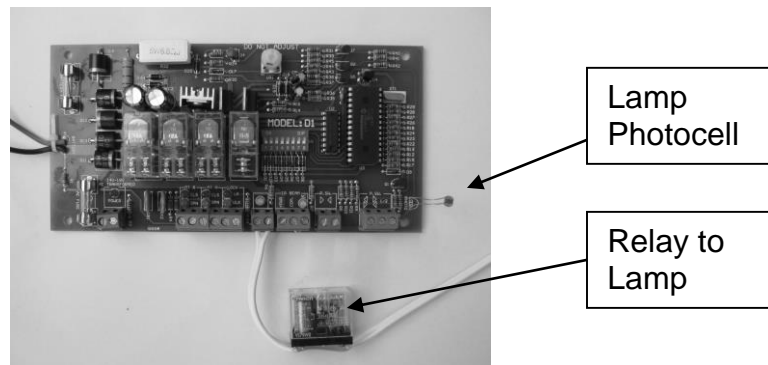

Figure 1: Connection of 12Vdc Relay for 240V lights
2. Connect a 12Vdc relay as is shown in Figure 1.